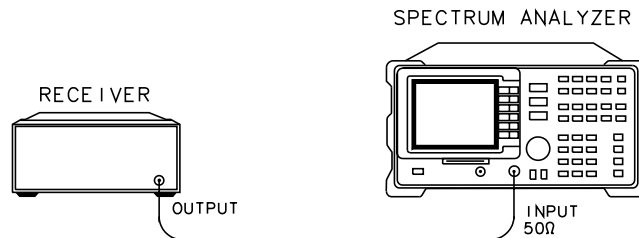

Figure 25 Test Setup for Receiver Spurious Emissions
- 2 Press **Rcvr Spurious**. Refer to Figure 25 on page 66 for the test setup.